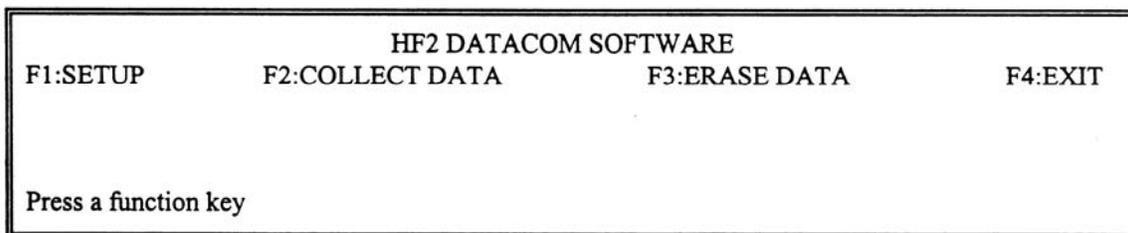

Figure 9-4. HF2 Datacom Software Screen.
- 10 Type DATACOM [ENTER] to start the DATACOM Data Logging Software program. The HF2 DATACOM SOFTWARE screen appears as shown in Figure 9-4.
- 6 Select AUTO COLLECTION: OFF. Use [◀▶] to change OFF to ON to automatically collect weld data when you enter the DATACOM Software program. Press [ESC] to return to the HF2 DATACOM SOFTWARE menu as shown in Figure 9-4.
- 2 Press [ESC] to return to the HF2 DATACOM SOFTWARE menu as shown in Figure 9-4.
- 3 Press [ESC] to return to the HF2 DATACOM SOFTWARE menu as shown in Figure 9-4.